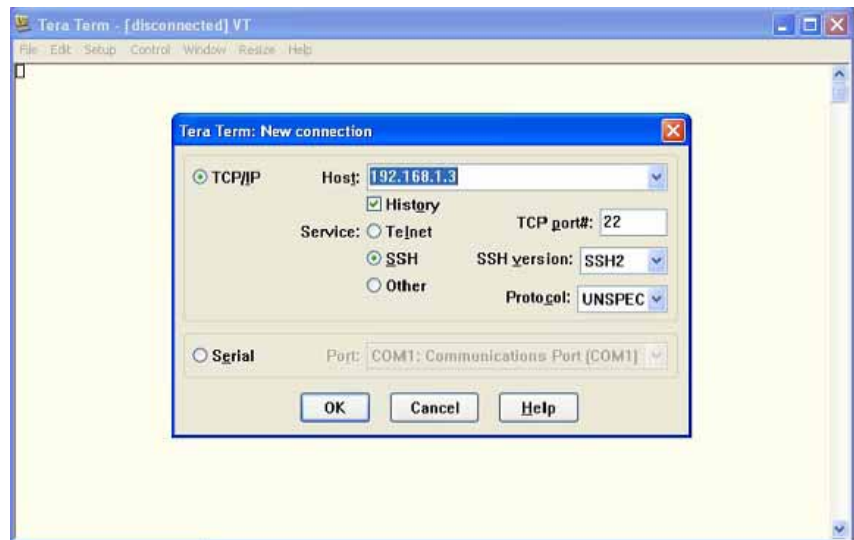

Figure 6-16: Selecting a Serial Connection
18. Select the **Serial** radio button, then click **OK** (Figure 6-16).